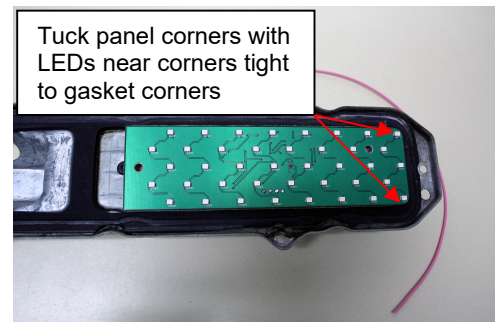

Figure 3
- 3.4. Remove the cover tape from the mounting foam on back of panel. Align the LED panel corners that have LED lights close to the corners with the outer edge corners of gasket on housing. (See Figure 3) Center panel vertically between gasket and press into place.